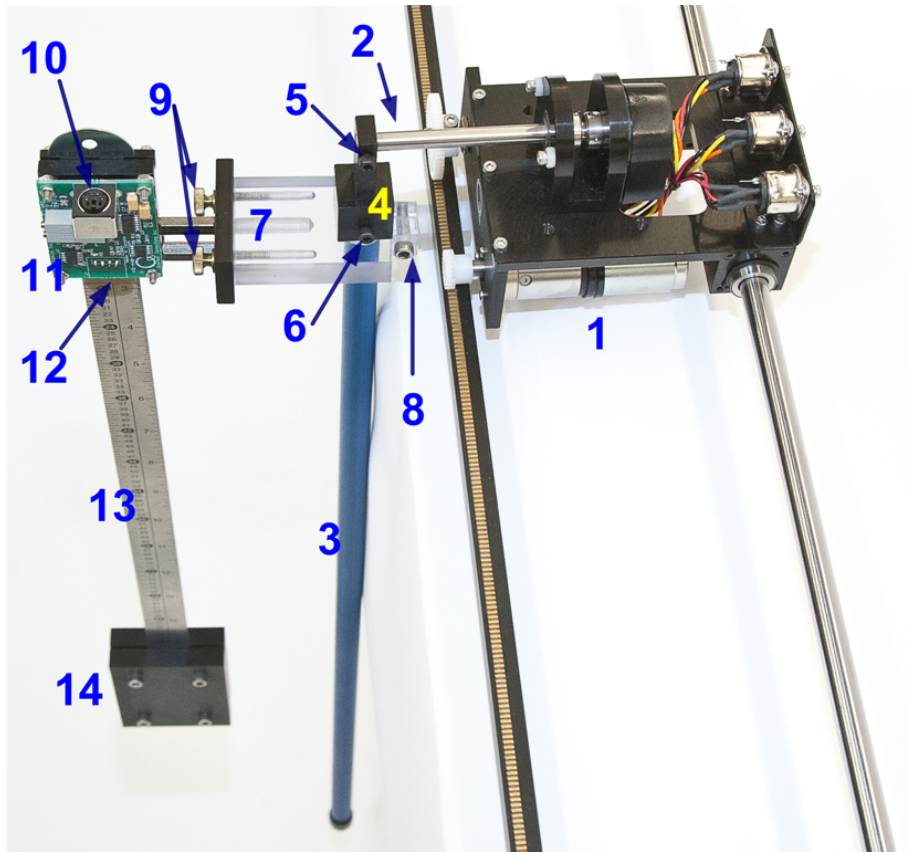
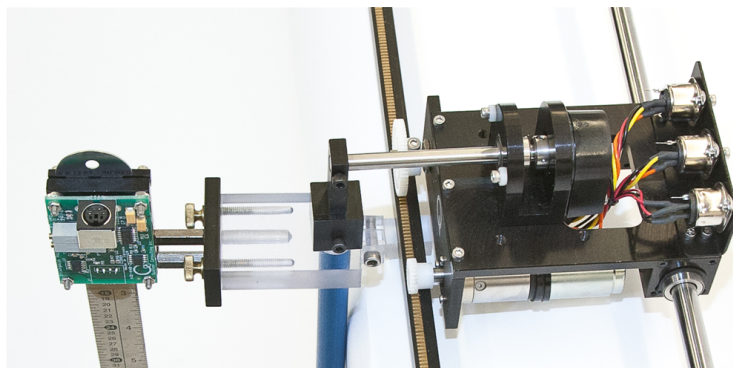
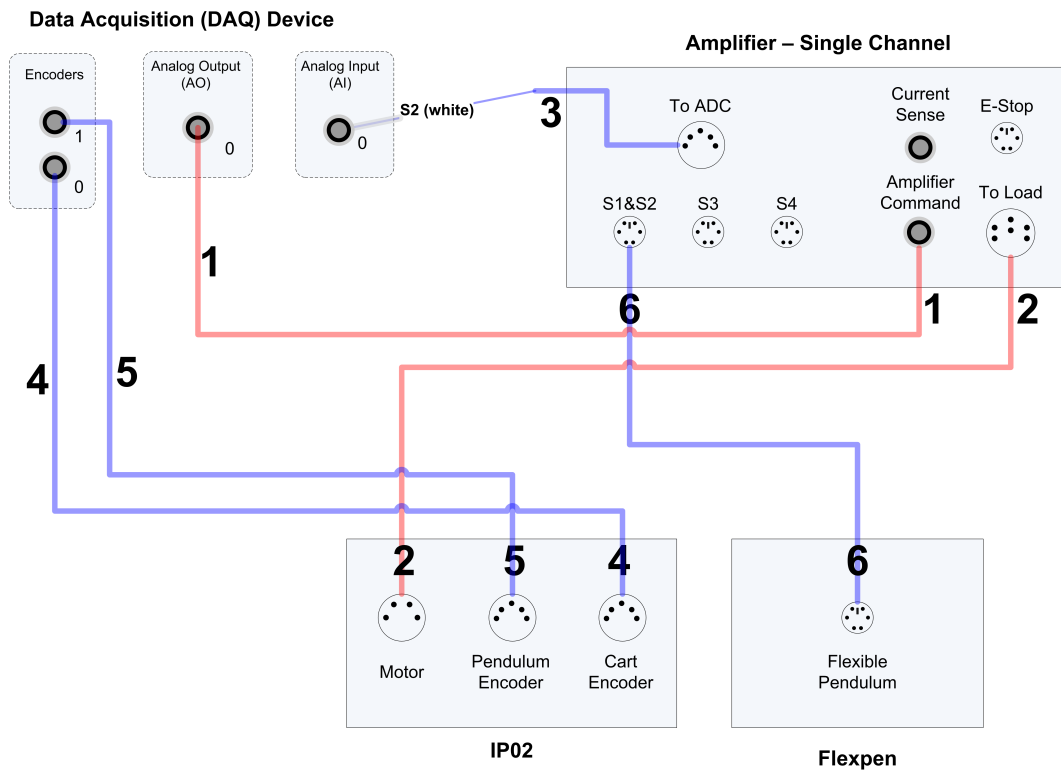

Figure 2.1: Components of IP02 + FLEXPEN System
Figure 4.1: FLEXPEN Assembly
Figure 4.2: Connections between Flexible Pendulum, Power Amplifier, and DAQ Device
Please use the ID # to locate each component in the Figure 2.1 below.
The Flexible Pendulum module consists of a stiff 24-inch pendulum rod and a 19-inch flexible link. They are both connected to a fiberglass connector, which can easily connect to the IP02 cart pendulum shaft. The main components of the flexible pendulum module are listed in Table 2.1, and labeled in Figure 2.1.
3. Fasten the FLEXPEN connector, ID #7 in Figure 2.1, on the long pendulum. This connects the long 24-inch rigid pendulum to the flexible pendulum. Tighten the FLEXPEN connector screw, ID #8, and make sure the connector does not slip about the pendulum rod.
4. Attach the flexible pendulum to the FLEXPEN connector, ID #7, that connects the rigid pendulum with the flexible pendulum, as illustrated in Figure 2. Tighten the two thumb screws, ID #9 in Figure 2.1, to fasten the flexible pendulum on the bracket.
5. Attach the T-fitting pivot of the long 24-inch pendulum to the tip of the IP02 cart's pendulum axis, as illustrated in Figure 4.1. Gently tighten the axis screw, ID #5 shown in Figure 2.1, as needed to ensure the pendulum is properly fastened to the metal shaft. See [2] for details
This section describes the typical connections used to connect the IP02 and FLEXPEN to a Data Acquisition (DAQ) Device and a power amplifier. The connections are described in detail in the procedure below, summarized in Table 4.2, and pictured in Figure 4.2.
2. Connect the **To ADC** socket on the amplifier to Analog Inputs #0 using the 5-pin-DIN to 4xRCA cable, as illustrated in Figure 4.2, ID#3. As illustrated, make sure you connect the **white** RCA connector (S2) to analog input channel #0.
3. Connect the analog connector on the strain gage of the flexible pendulum, ID #10 in Figure 2.1, to the **S1 & S2** socket on the amplifier using a 6-pin-mini-DIN to 6-pin-mini-DIN analog cable. This connection is shown in Figure 4.2, ID #6. **Ensure the amplifier is not powered when making this connection.**
Note: The wiring diagram shown in Figure 4.2 is using a generic data acquisition device. The same connections can be applied for any data-acquisition system that has at least 1x analog output, and 2x encoder inputs.
2. Ensure the system has been wired using cables #6 and #3 shown in Figure 4.2